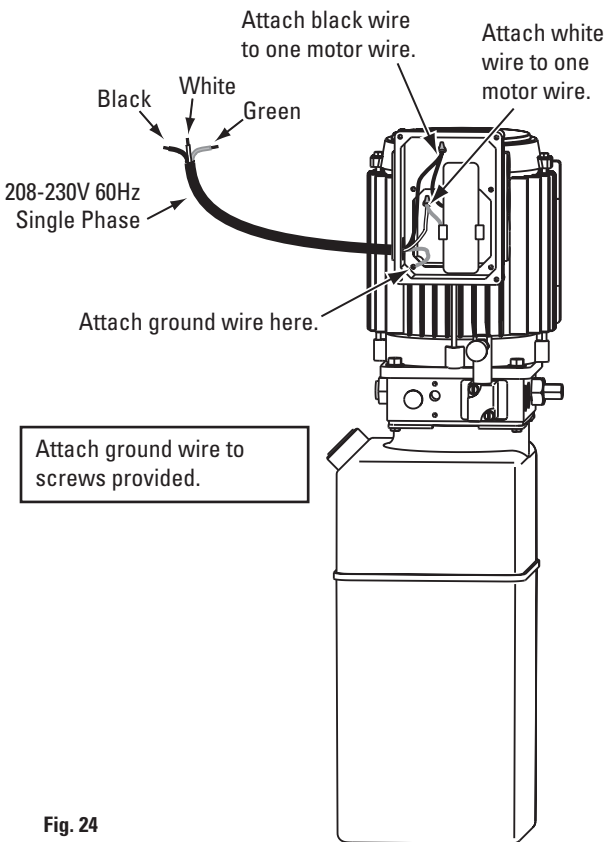

Fig. 24
15. **Electrical:** Have a certified electrician run appropriate power supply to motor, Fig. 24 and Fig. 25. Size wire for 20 amp circuit. See Motor Operating Data Table.
**IMPORTANT** Use separate circuit for each power unit. Protect each circuit with time delay fuse or circuit breaker. For single phase 208-230V, use 20 amp fuse. Three phase 208-240V, use 15 amp fuse. For three phase 400V and above, use 10 amp fuse. For wiring see Fig. 24 and Fig. 25. All wiring must comply with NEC and all electrical codes.